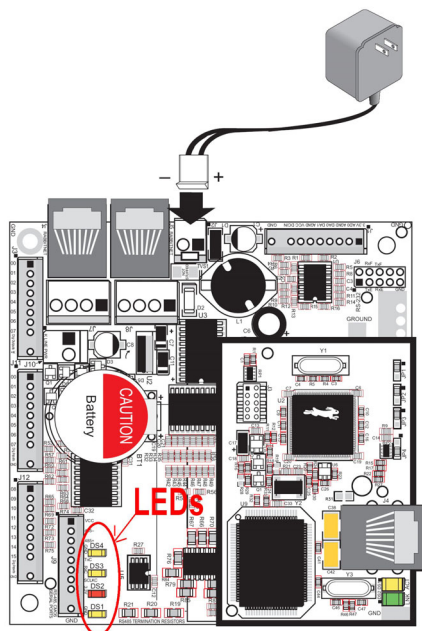

Figure 1: Power Supply Connection
1. Connect the AC adapter to header J2 on the BL2500 as shown in Figure 1. Match the friction lock tab on the friction-lock connector to the back of header J2 on the BL2500 as shown. The friction-lock connector will only fit one way. Plug in the AC adapter.